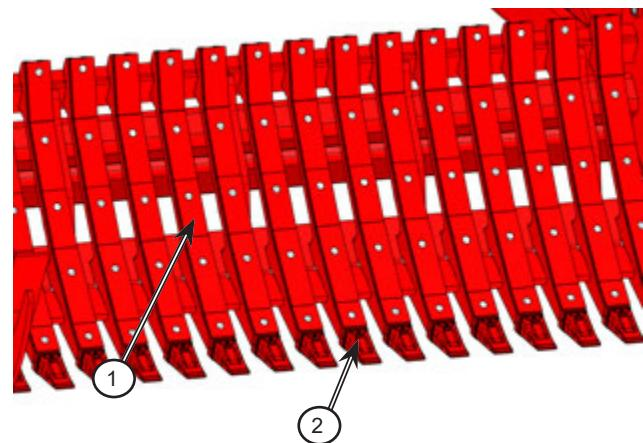

Figure 4.20: Check the condition of the tines
- 6. Check the condition of the tines; see *Figures 4.20* and *4.21*.
- a. Check that the top of the tines (wear plates) (1) are tight and not missing any fasteners. Tighten as required.
- b. Check that the replaceable tine tips (2) are in good condition, and the spring pins in each are centered and not loose or damaged.
- c. Check that the bolt (3) fastening each tine onto the apron is tight. Tighten as required.